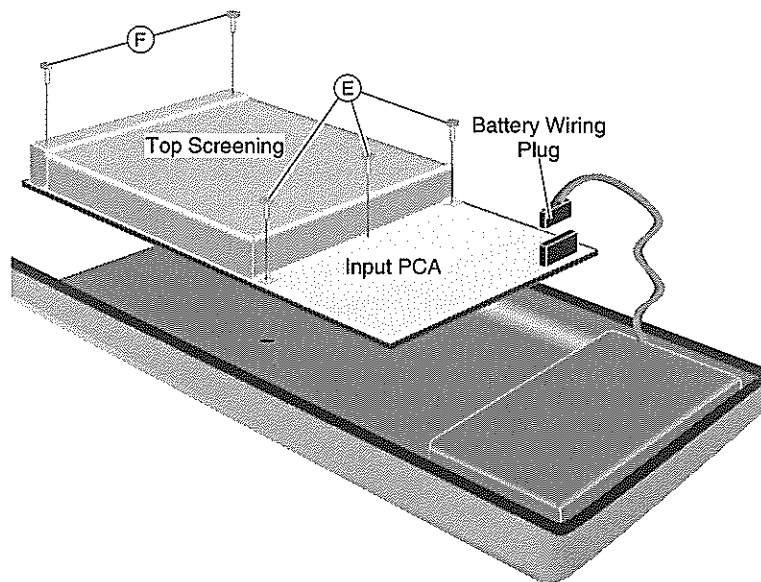

Figure 6-2. Removing the Input PCA
2. Loosen the three screws and spring washers "E" holding the top screening and the Input PCA to the bottom cover. See Figure 6-2.
2. Remove the Input PCA according to Fig. 6-2.